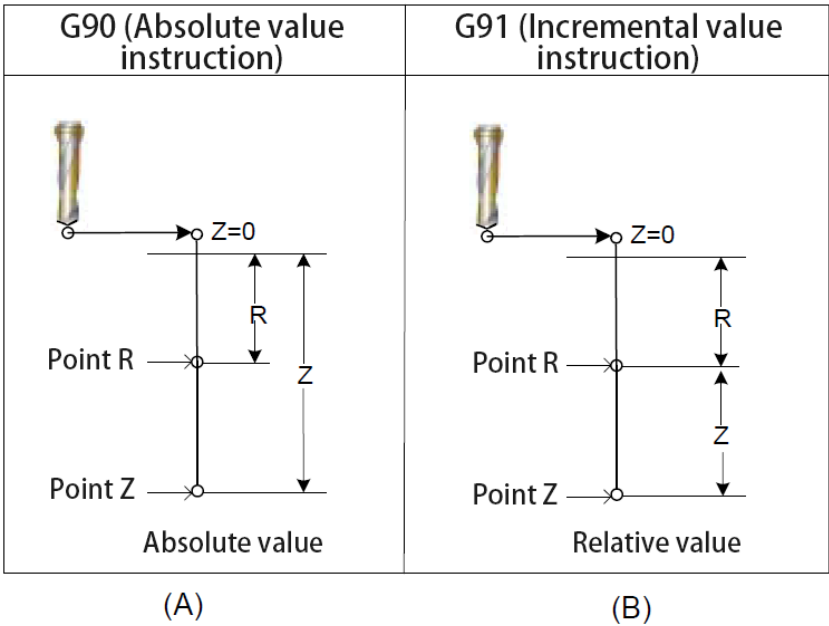

Fig. 3-4-2
R_	Specify the distance from the initial point plane to the R point of Figure 3-4-2 (B) in increments, or in increments Specifies the coordinate value of the R point with absolute values. The feed speed is all fast feed in Action 2 and Action 6.
The distance traveled along the drilling axis changes to G90 and G91 as shown in Figure 3-4-2. (Generally programming with G90, if programming with G91, Z and R are treated as negative values.)